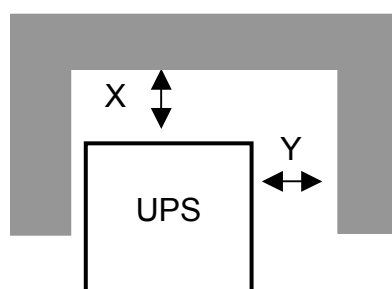

Figure 3.1: UPS space recommendation
- Minimum 600mm rear space is recommended for accessibility (see Figure 3.1 and 3.2);